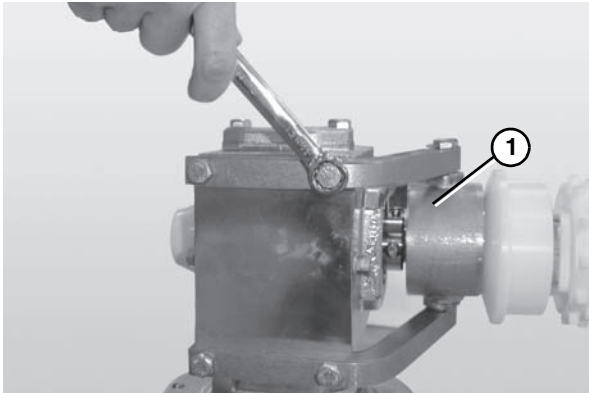

Figure 60
- Unbolt the drive assembly and slide it off the bearing spindle (**Figure 60, item 1**). Retain key from spindle keyway.